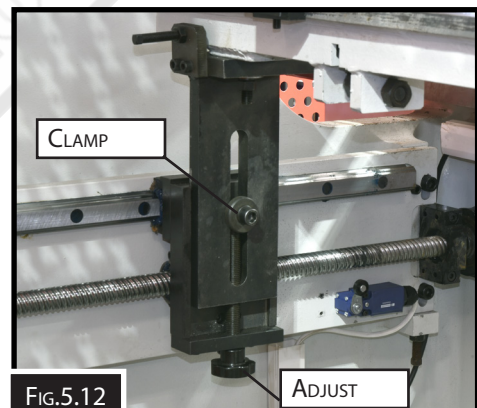

FIG.5.12
5. Press "Service" Button (Fig 5.12)
4. If the fingers need to be raised or lowered then release the clamp and adjust the height of the fingers accordingly (Fig.5.12), making sure that both ends are adjusted so that the back gauge remains parallel.